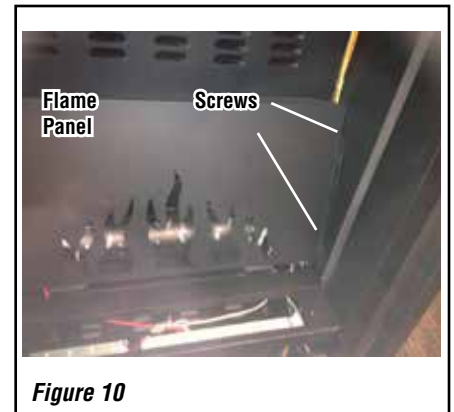

Figure 10
- ii. Using a phillips screwdriver, remove the flame panel (see **Figure 10**).